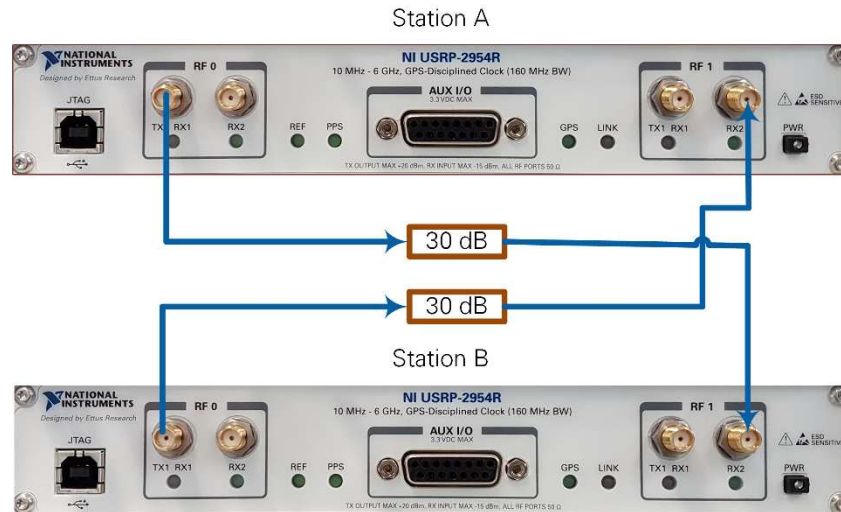

Figure 2 Cabled Connection of USRP Devices
2. Complete the following steps to create RF connections as shown in Figure 2.